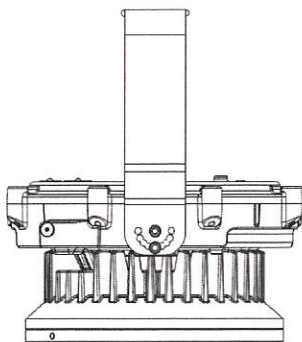
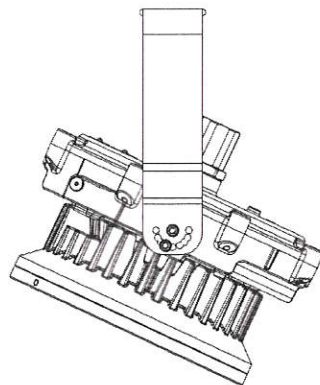
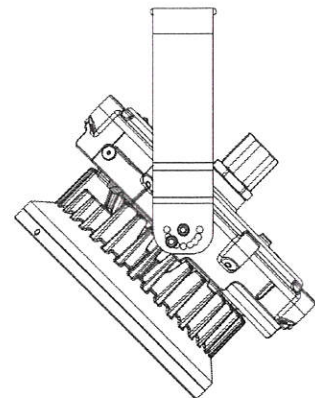

Figure 4
Figure 5
Figure 6
- Mounting Orientation – Lens horizontal Facing Down (Figures 4 and 7) or Lens Facing Down 25°(Figures 5 and 8) or Lens Facing Down 45°(Figures 6 and 9) from vertical.